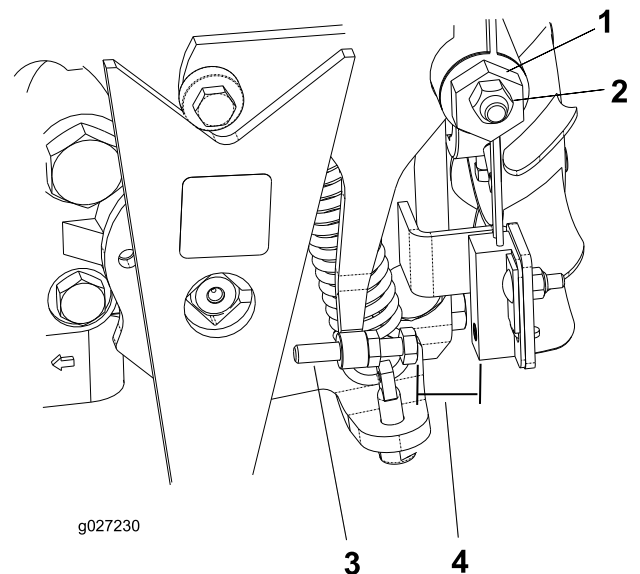

Figure 37
4. Loosen the locknut on the traction-adjustment cam (Figure 37).
5. Start the engine and rotate the cam hex (Figure 37) in both directions to determine the midpoint of the neutral span.
3. Adjust the screw until the air gap is 0.8 to 2.3 mm (0.030 to 0.090 inch); refer to Figure 37.